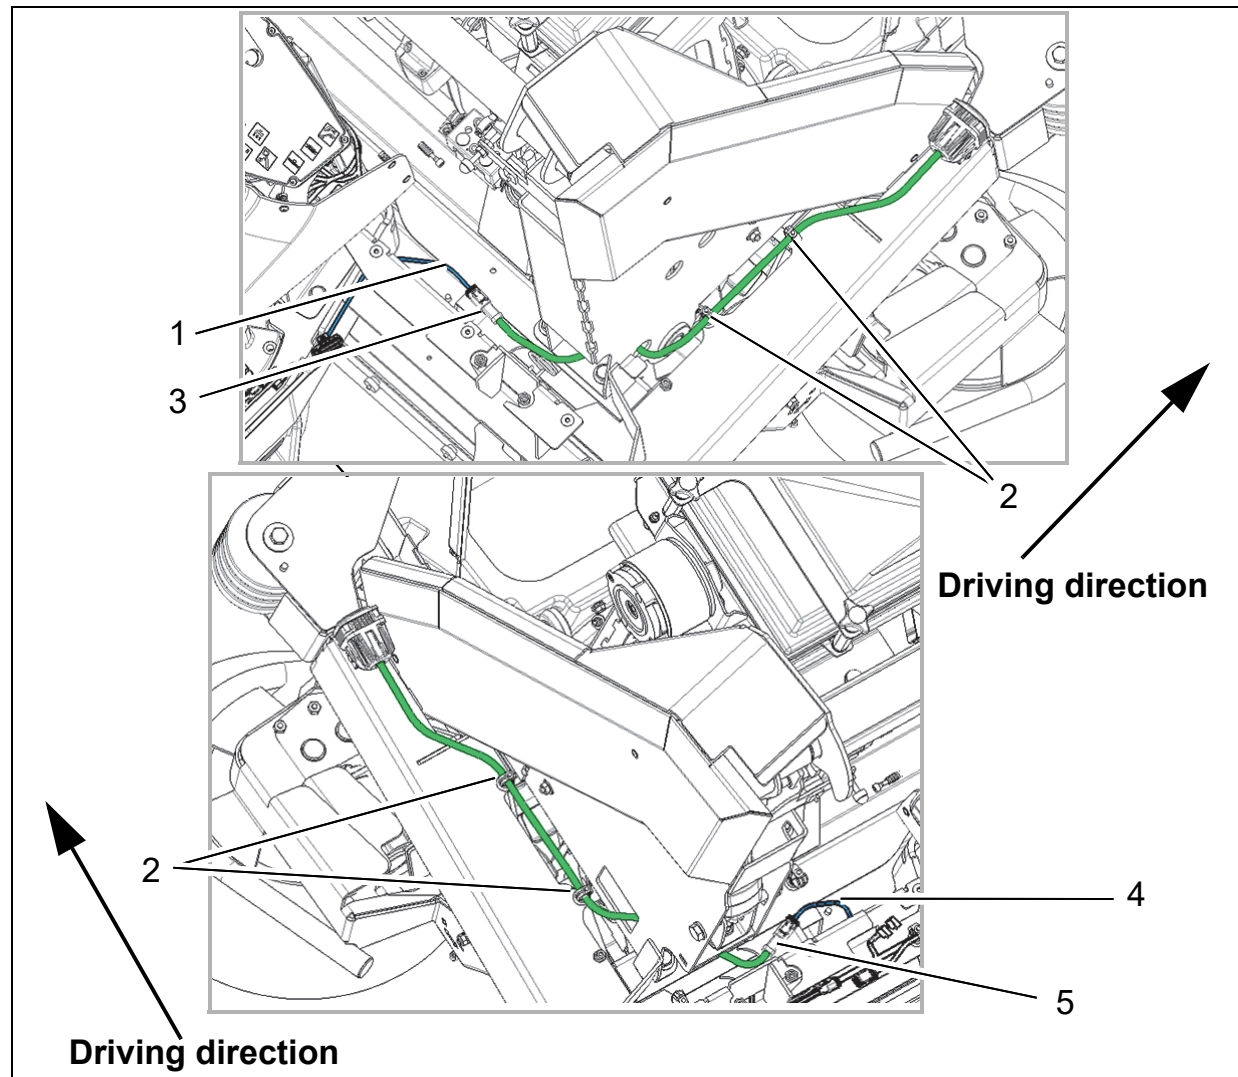

Fig. 6
1. Disconnect plug E11/cable loom W3 on the right-hand side of the machine from the cable bundle and feed it through the recess to the front (Fig. 6/1).
2. Feed the cable of the right-hand LED working light through the cable bundle holder (Fig. 6/2), then through the recess in the side wall and connect it to plug E11 (Fig. 6/3).
3. Disconnect plug E1/cable loom W3 on the left-hand side of the machine from the cable bundle and feed it through the recess to the front (Fig. 6/4).
4. Feed the cable of the left-hand LED working light through the cable bundle holder (Fig. 6/2), then through the recess in the side wall and connect it to plug E1 (Fig. 6/5).